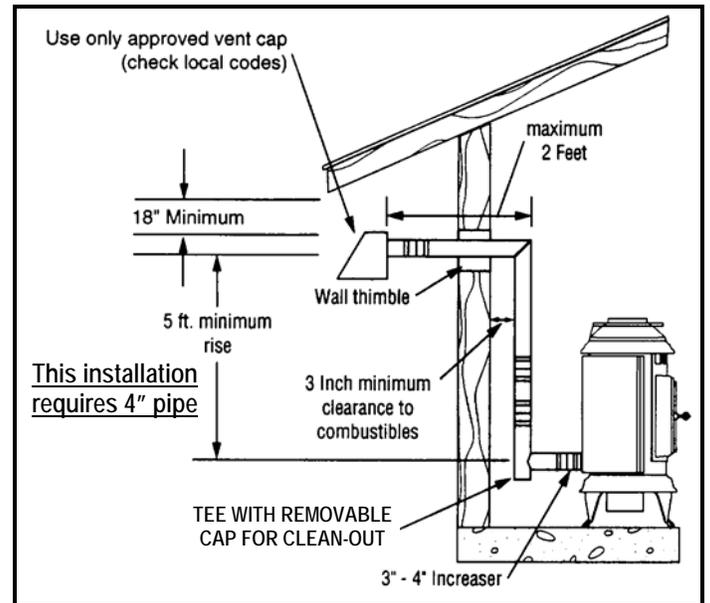

FIGURE 8
- c. Installation per Figure 8 requires 4" pellet pipe.